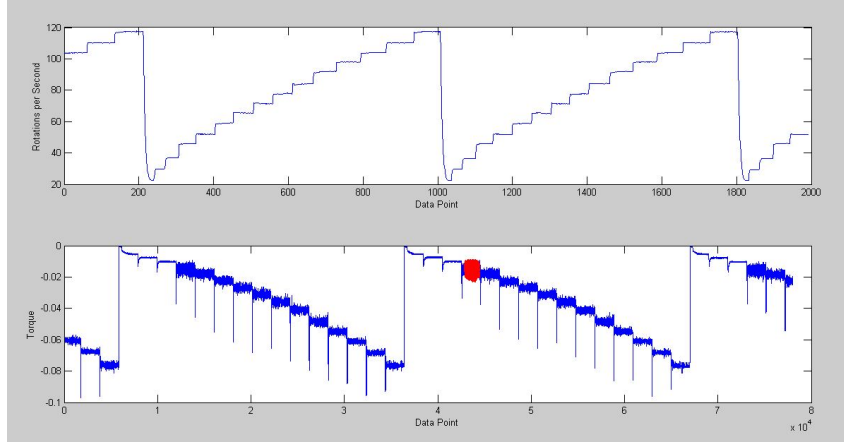

Figure 2.4: Plot of rotation per second data and torque LabView data.
6. To compute  $k_F$  and  $k_M$ , plot the data from the LabView program in MATLAB as shown in Figure 2.4. Then find the average rotations per second for a given step. Multiply it by  $2\pi$  and square the result. Then find the corresponding step in the force/moment data set and average the result. This is now one data point. Do this for 10 steps and plot the ten resulting points. You should notice that the points form a linear line. Use least squares regression to find the slope of this line. This slope is the  $k_F$  or  $k_M$  value. Show the TA your result.